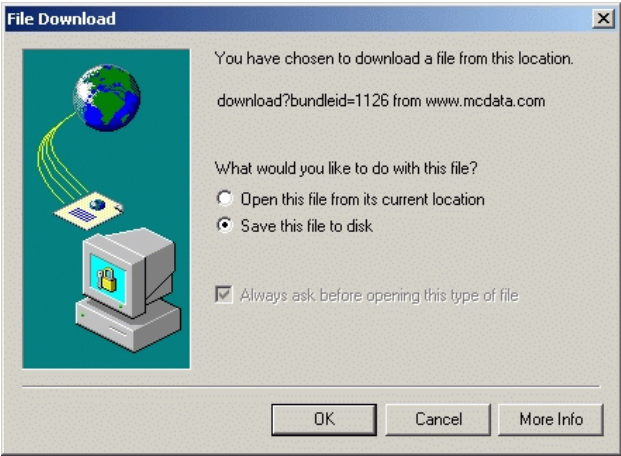

Figure 4-84 File Download Dialog Box
- h. In the *Action* column adjacent to the approved request for the software version, click *Download*. The *File Download* dialog box displays (Figure 4-84).